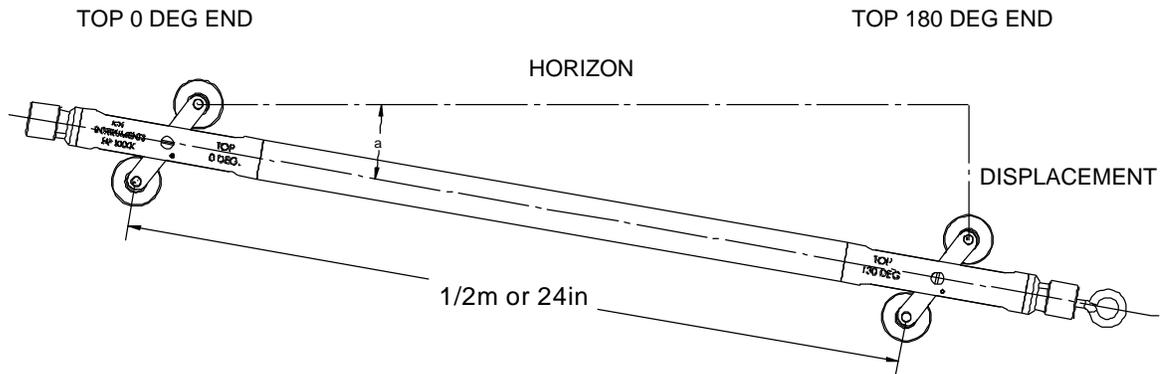

Figure 7 – Vertical Displacement
- Verify that the probe's signal increases or decreases as its angle with respect to the horizon. A positive deviation is given when the Top 0 DEG end is tilt above the TOP 180 DEG End (see figure 7). If the system is not functioning as expected, contact RST Instruments Ltd. for technical support.
The readings taken represent the vertical displacement, defined by $(\frac{1}{2}m) * (\text{SIN}(a))$, where “a” is the angle between the horizon and the longitudinal axis of the probe. A positive reading from Top 0 DEG end indicates settlement and a negative reading indicates heave. The opposite applies if the Inclinometer Cable is connected to the opposite side (Top 180 DEG end). For instance, Figure 7 below is showing settlement.
The MEMS Horizontal Inclinometer Probe houses two MEMS accelerometers, which measure tilt in horizontal axis and the rotation along horizontal axis (see figure 7 & 8). Proper installation of the inclinometer casing attempts to align one set of grooves in line with the vertical plane of expected movement.
The RST MEMS Horizontal Inclinometer System uses the industry standard sign convention, where tilt in the direction of the Top 0 DEG end results in a positive deviation and tilt in the direction of the Top 180 DEG end results in a negative deviation (see Figure 7).